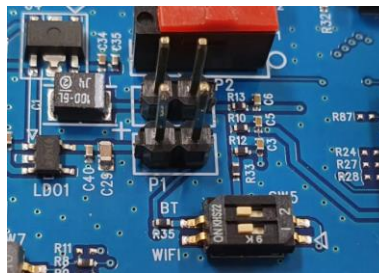

Figure 53. Set up DA16600 EVB jumper
3. Open the DA16600 EVB's power two jumper caps as shown in Figure 53.
- If SW (1) moves to switch on, measure the current of Wi-Fi chipset.
- If SW (2) moves to switch on, measure the current of the Bluetooth® LE chipset.